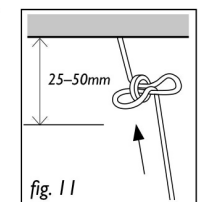

fig. 11
8.4 Push both the cord-stop and the loosened knot toward the head rail until the cord-stop is 25–50mm below the head rail [fig. 11].